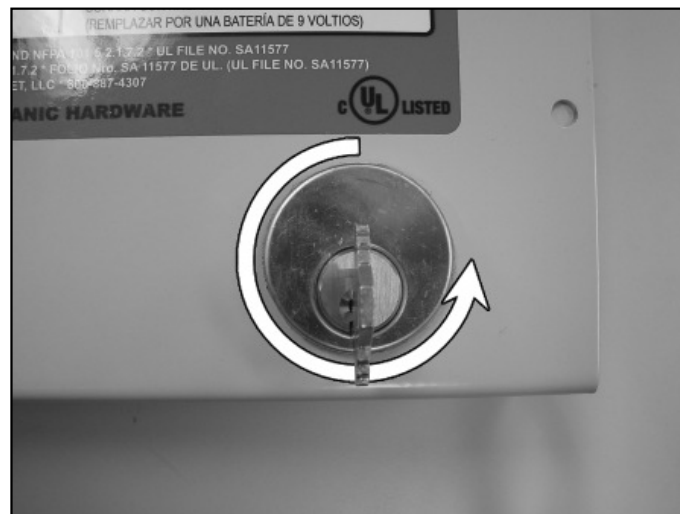

FIGURE 10
14. While holding cover plate in place, wait 15 to 20 seconds, then open door. The alarm will sound. The alarm will continue to sound until the key is turned to the off position. To do this, insert the key into the cylinder and turn counter-clockwise until the key stops. (See Figure 10) The alarm should cease.